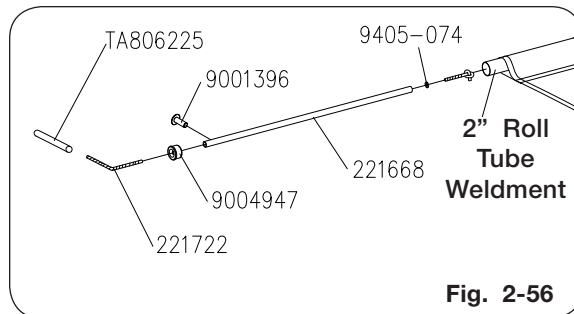

Fig. 2-56
11. Insert knotted stretch rope (221722) through flat washer (9405-074), plastic tube (221668) and end plug (9004947). Place these items as an assembly into front end of 2" roll tube weldment and press the end plug into the end of the tube. Screw self-drilling screw (9001396) through the side of roll tube, into end plug (9004947) to retain plug into tube. Slide hose (TA806225) over bungee. See Figure 2-56.